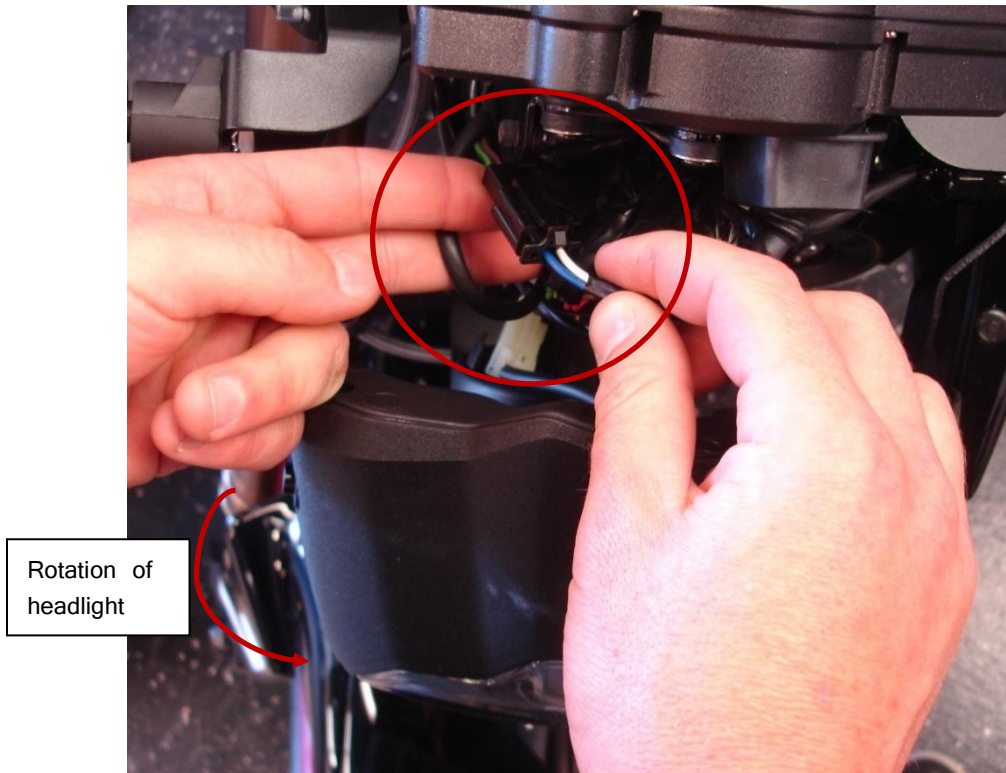

Figure 2
- Carefully rotate the headlight downwards to expose the brake light switch wires and connector. See FIGURE 2.